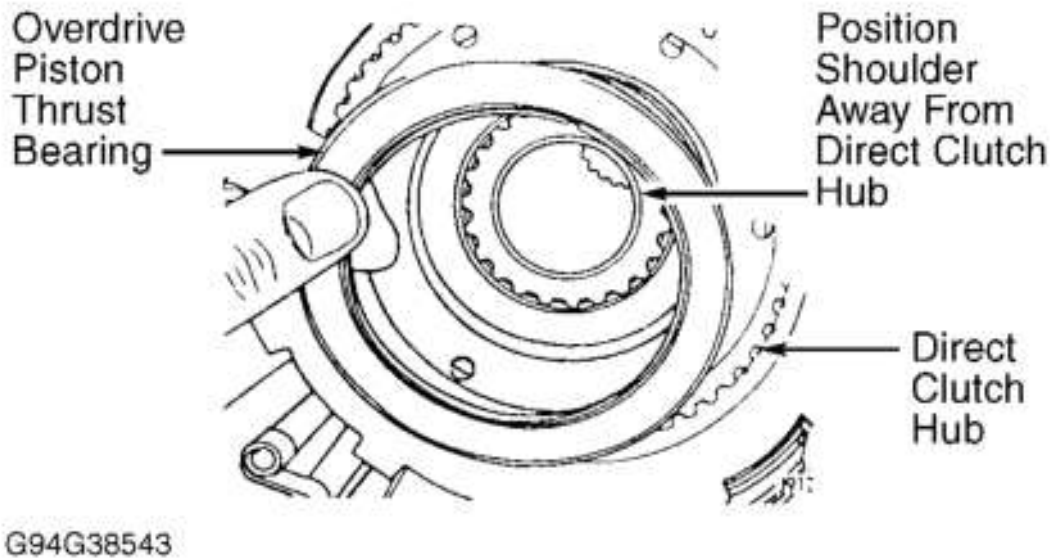

Fig. 40: Installing Overdrive Piston Thrust Bearing
21. Install overdrive piston thrust bearing in direct clutch hub on overdrive unit with shoulder away from direct clutch hub. See **Fig. 40** . Use petroleum jelly to hold overdrive piston thrust bearing in position.